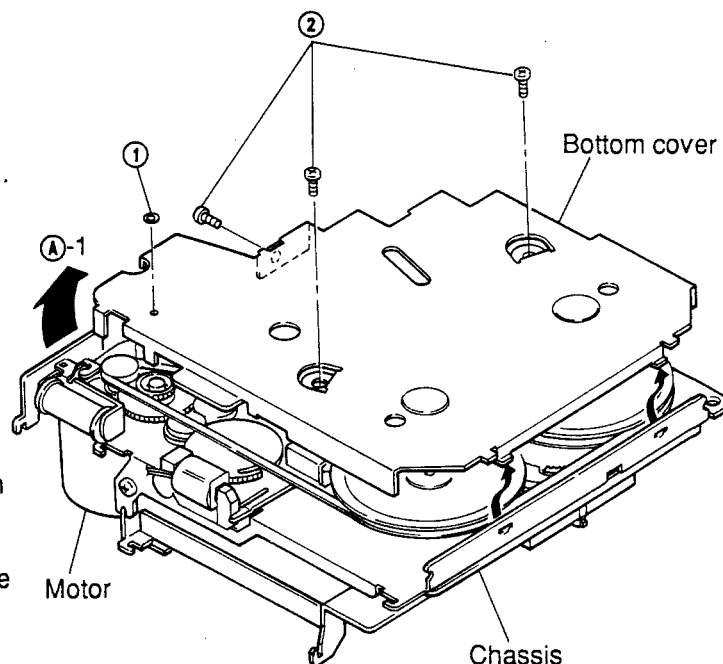

Figure 1
- (1) Turn the mechanism around as shown in Figure 1.
- (2) Remove M1 lock washer ① as shown in Figure 1.
- (3) Remove three screws ② as shown in Figure 1.
- (4) Lift the bottom cover slowly from the position ①-1, pull the hooks out of the holes in the chassis, and remove the bottom cover as shown in Figure 1.